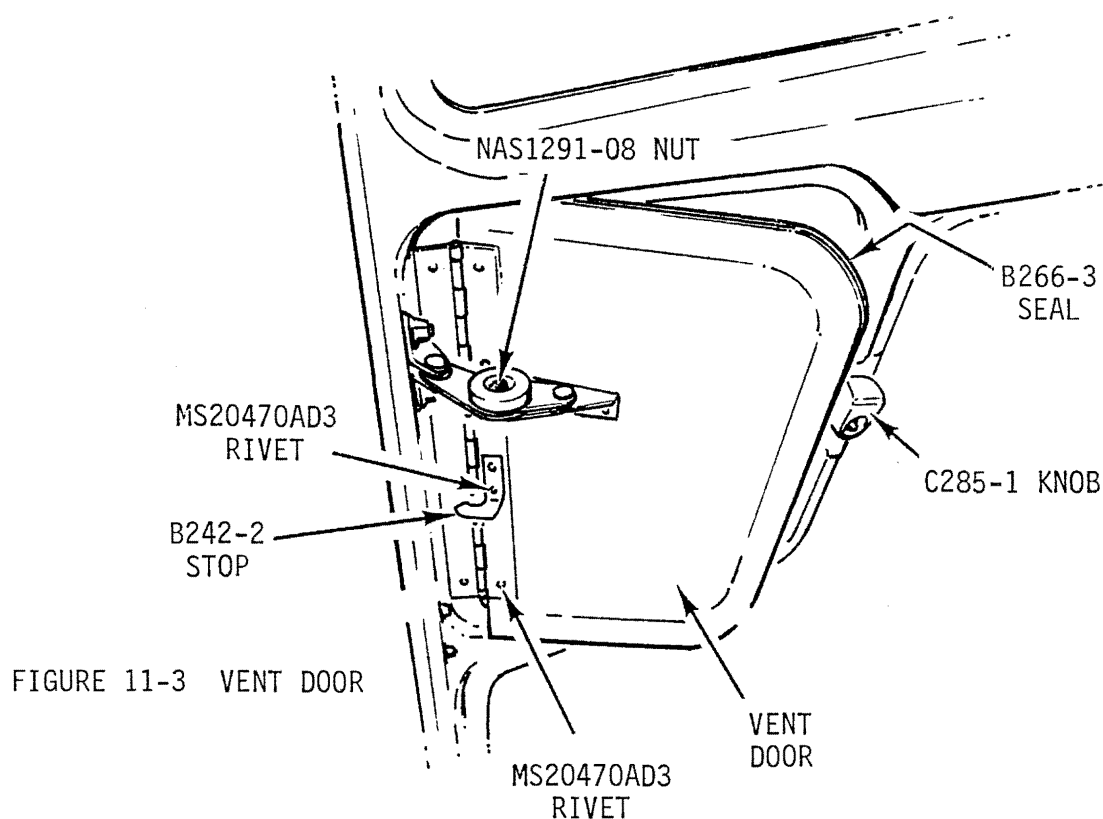

FIGURE 11-3 VENT DOOR
11.230 Door Vent (See Figure 11-3)